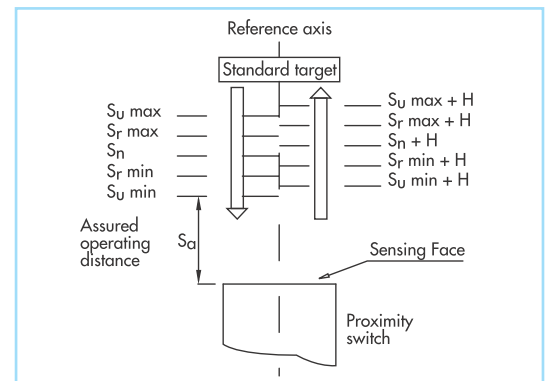

Fig. 1
The rated operating distance is a nominal value used to designate the operating distance. Manufacturing tolerances and external factors are not taken into account. Fig. 1 shows the relation between the operating distance (Sn, Sr, Sa) and the hysteresis (H).